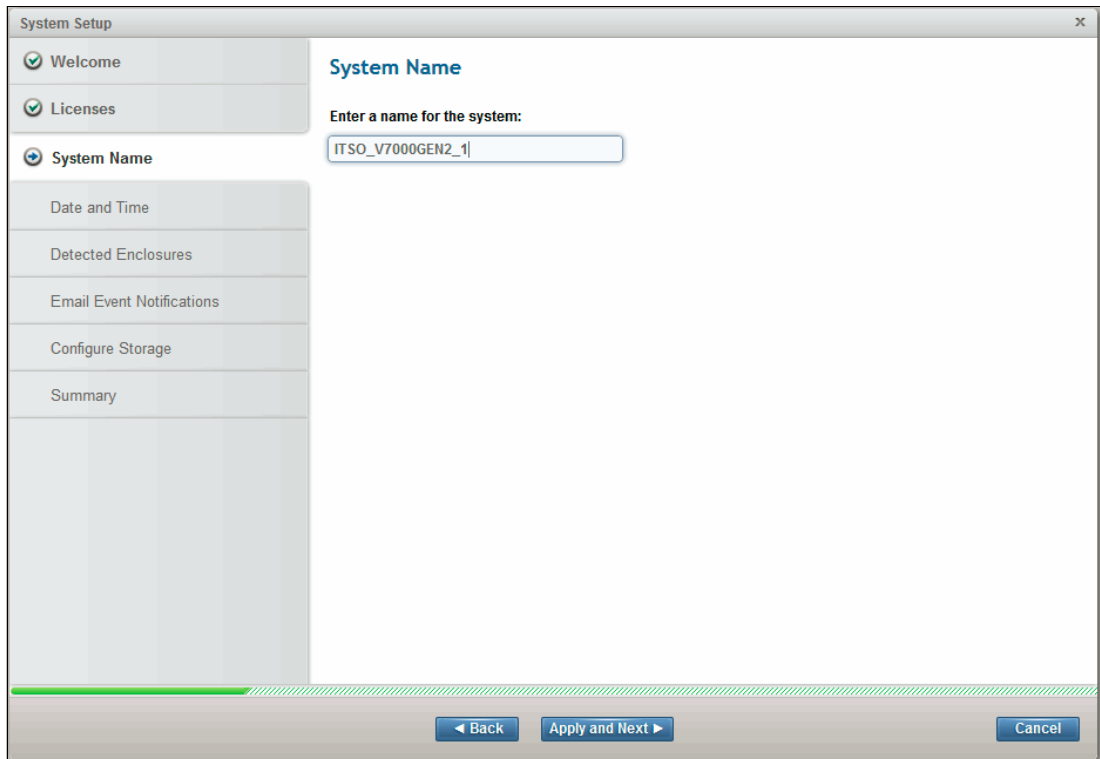

Figure 5-14 System name
7. In this case, choose the wanted name for the system, as shown in Figure 5-14.